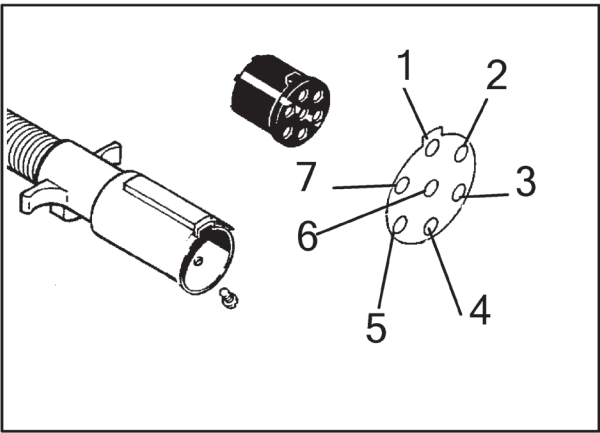
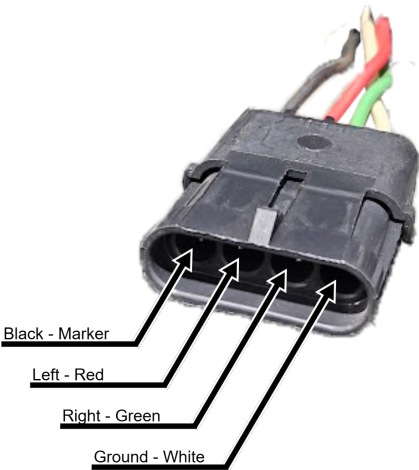

Figure 15 7-Pin Electrical Connector
Figure 16 4-Pin Electrical Connector
The tractor must be equipped with an SAE J560a 7-pin electrical connector (Figure 15) to adapt to the wire harness's 4-pin electrical connector (Figure 16). This will provide power for turn signals, warning flashers, and tail lights.
1. Lower rear parking stands (folding cultivators without lift assist) to the ground and pin in position so that parking stands will be vertical when tractor is removed. Front and rear stands should be pinned in the same hole position as shown in Figure 16.